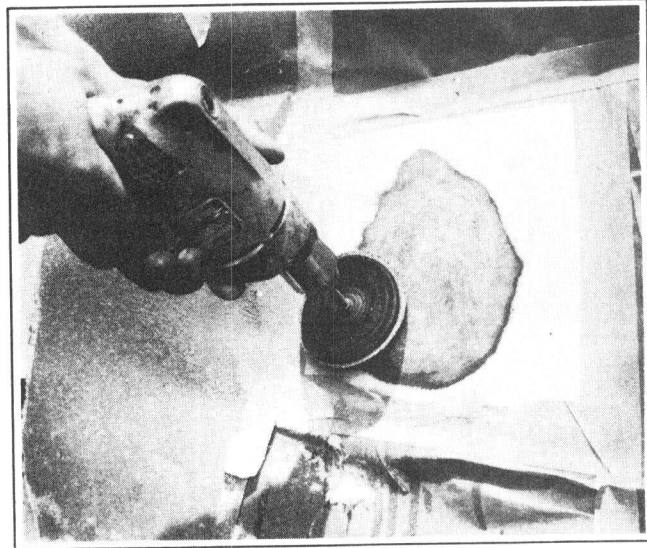

Figure 4-13. Blending Patch with Sander
- Allow the patch to cure overnight; then sand with dry 80-grit paper on power sander. Smooth the patch and blend it with surrounding surface. If air pockets are present, puncture and fill with catalyzed resin. Let cure and re-sand. See Figure 4-13.